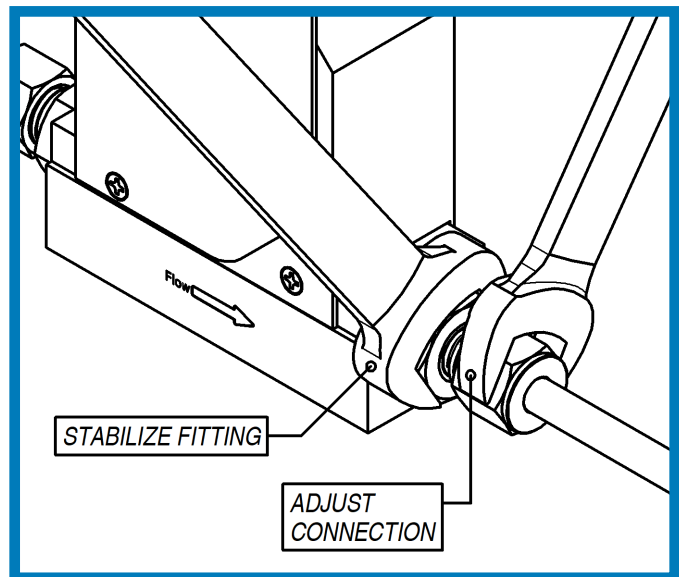

Figure B3.2
- When connecting the device to any plumbing, take care not to over-tighten the fittings or leaking may occur. A backup wrench should be used to prevent the fitting from rotating whenever connections are adjusted (see figure B3.2).